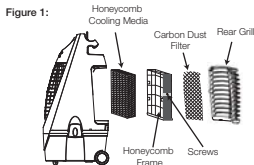

Figure 1: Removing the Carbon Dust Filter*/ Honeycomb Cooling Media:
- The Carbon Dust Filter* and Honeycomb Cooling Media are located inside the Rear Grill. See Figure 1 for instructions on how to remove them from the unit for cleaning and maintenance.